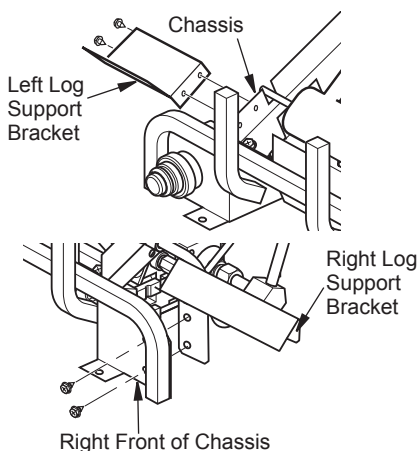

Figure 18 - Installing Log Support Brackets
1. Install left bracket to left side of chassis using 2 screws provided (see Figure 18).
2. Install right bracket to right front of chassis using 2 screws provided (see Figure 18). This bracket will also be used as remote control bracket if remote is installed.